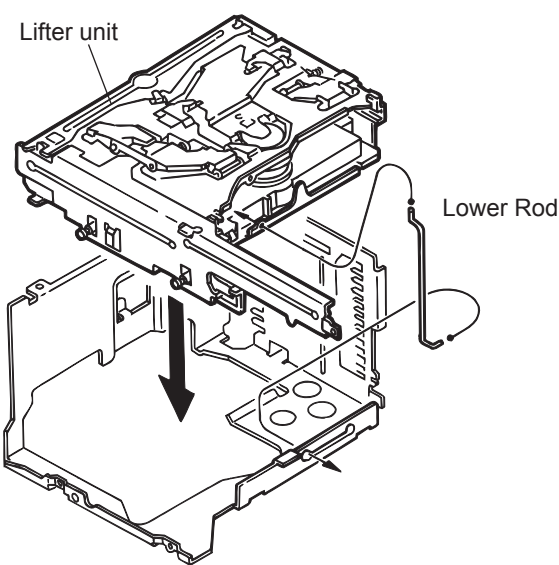

Fig.27
**2.4.13.3 Connection of the chassis (L) assembly and chassis (R) assembly**
**(See Fig.27 to 29)**
- (1) Attach the lower rod to the chassis (R) assembly. While shifting the rod toward the front side, mount the rod on the lifter unit.